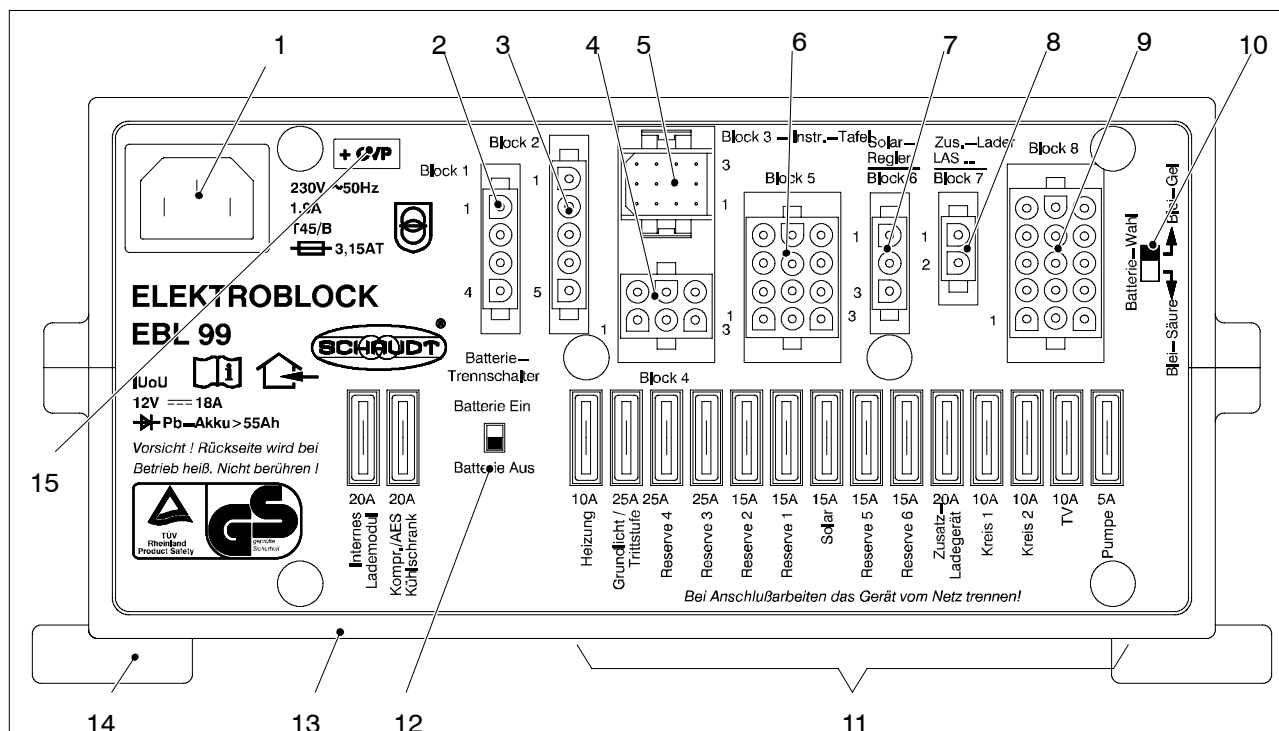

Fig. 3 Layout of EBL 99 electroblock (front)
- Turn the battery cut-off switch (see Fig. 3, Pos. 12) to "Off". The following connections are isolated from the living area battery: